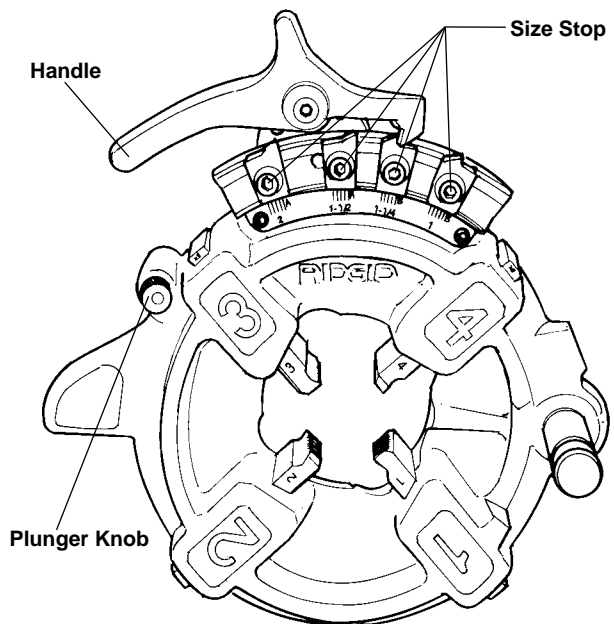

Figure 13 – Semi-Automatic Die Head
Semi-automatic die head (*Figure 13*) – When the end of the pipe being threaded is flush with the end of the number 1 die, hit the handle for the dies to release the pipe.
The Semi-Automatic Die Head (*Figure 13*) for right hand threads requires four sets of dies to thread pipe ranging from 1/8" through 2". One set of dies is required for each of the following pipe size ranges: (1/8"), (1/4" and 3/8"), (1/2" and 3/4") and (1" through 2"). Bolt threading requires a separate set of dies for each bolt size.
1. Depress handle so that cam plate rests (*Figure 13 – Model 816/817 Die Head*) against the stop (as shown).